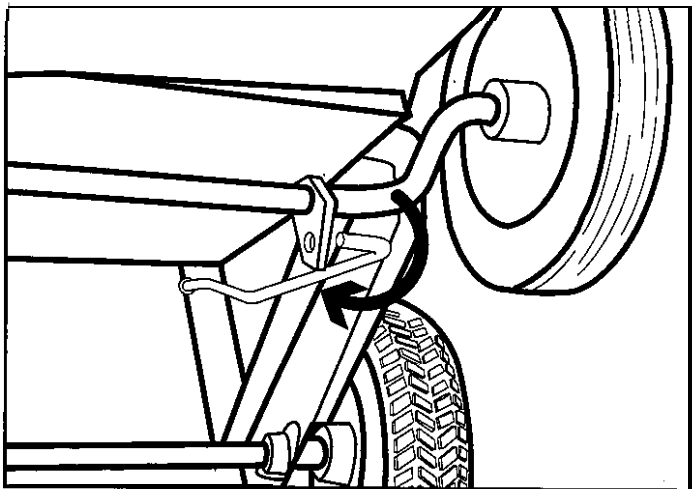

Figure 53. Adjusting Rod Length
3. Turn the rod counterclockwise to lengthen the rod (Figure 53). Lengthening the rod will reduce the clearance between the nozzle and the ground; shortening the rod will increase the amount of clearance between the nozzle and the ground.